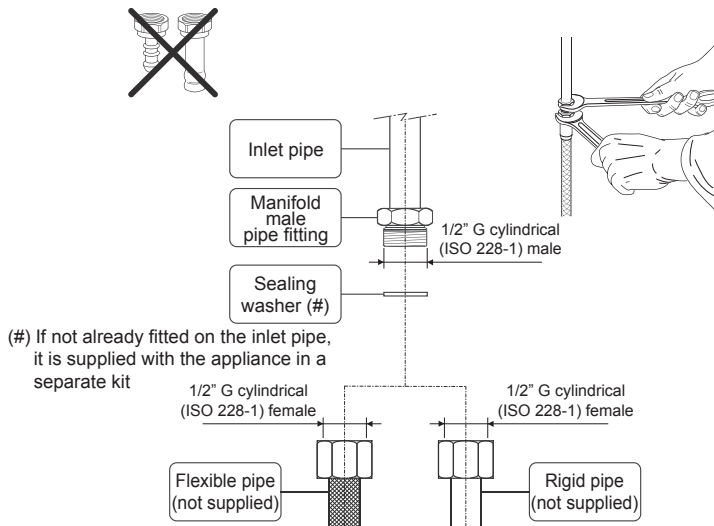

Fig. 8.7
- if compression fittings are used, you tighten them firmly using two spanners (fig. 8.7).
- use two spanners when connecting the rigid or flexible pipe (fig. 8.7).